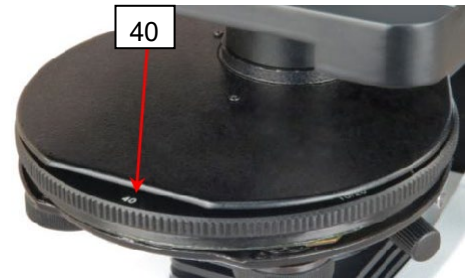

Fig.15
- 4) Turn the annular ring disk to put the corresponding ring into light path, i.e. if you are using the **40X** phase contrast objective, you should turn the disk at **40** as shown in **Fig. 15**.